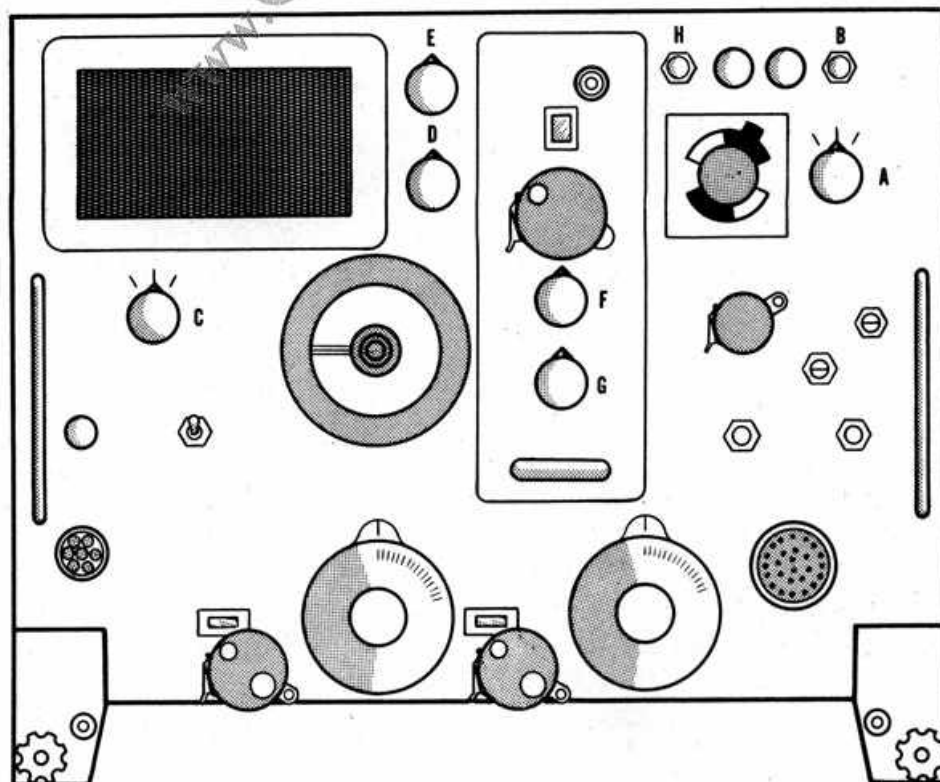

Figure 35A—AN/APN-3 Radio
(1) RADAR SET AN/APN-9 (located in the radar operator's compartment).—This is airborne navigation equipment.
(2) LIAISON RADIO AN/ARC-8.—AN/ARC-8 is installed in the radar operator's compartment as temporary ferrying equipment.
(3) RADIO ALTIMETER AN/APN-1. — Set AN/APN-1 is installed to give a direct altitude indication. It is located in the pilot's compartment.
(4) RADIO AN/APN-3. (See figure 35A.)—AN/APN-3 is navigation equipment installed in the radar operator's compartment with an additional directional indicator and sensitivity switch in the pilot's compartment.
(5) RADIO SET AN/APQ-13A. — This equipment is an airborne radar system designed for navigation and high altitude bombing.